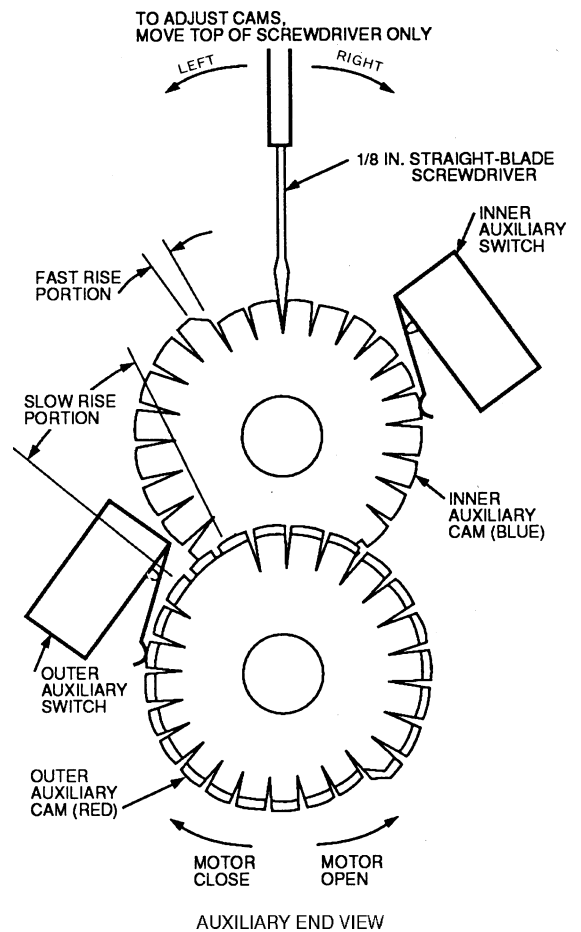

Fig. 128 — Auxiliary Switch Adjustment
4. Adjust auxiliary cam by inserting a $\frac{1}{8}$ -in. straight blade screwdriver into slot on cam and moving TOP of screwdriver to the right or left. See Fig. 128.